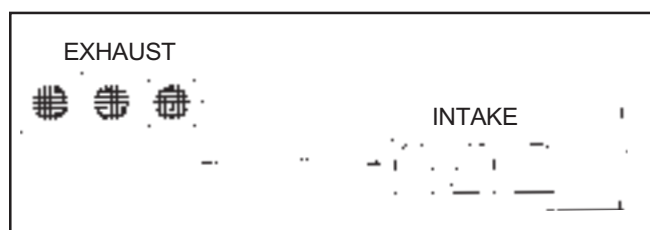

Figure 4. Multiple units minimum vent terminal separation.
3. Intake and exhaust location for multiple unit installation. For the installations of multiple units, refer to Figure 4 for intake and exhaust terminal locations.